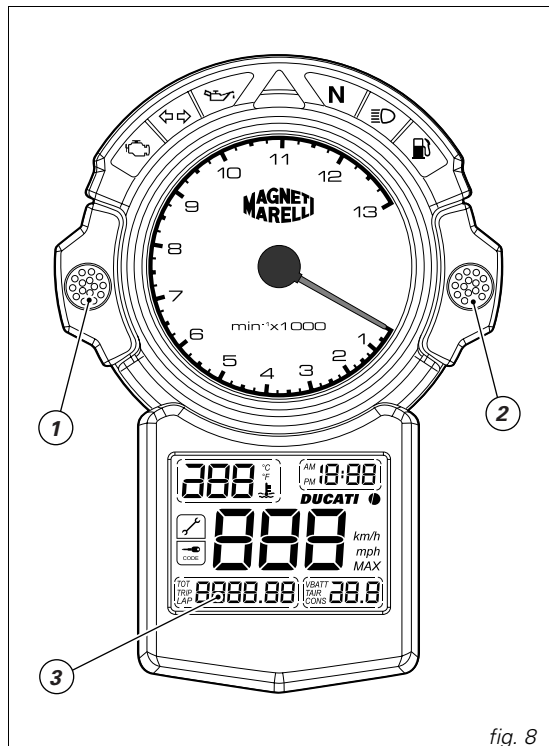

fig. 8
Hold down button (1, fig. 8) for at least 2 seconds.
To select AM/PM, press button (2, fig. 8). Press the button (1) to confirm selection and enter hours setting mode.
Select TRIP indication in the display (3, fig. 8). Hold down the button (2) for at least 2 seconds to reset displayed trip meter indication.
The engine control unit transmits the correct vehicle model and unit measurement information automatically for the instrument panel to display. To force a change of these parameters, turn the key from OFF to ON while holding down both buttons (1, fig. 8) and (2, fig. 8). Press the button (1) to scroll through available configurations. To store your selection, hold down the button (2) for 5 seconds, until the word OFF appears on the display. Set the key to OFF.